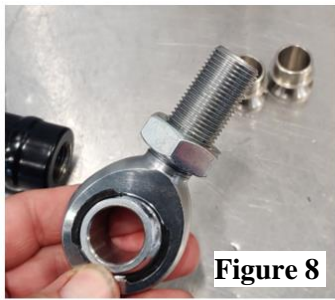

Figure 8
12. To assemble the lower trailing arms, thread one right-hand jam nut onto the XMR10-12 rod end. **(Figure 8)**